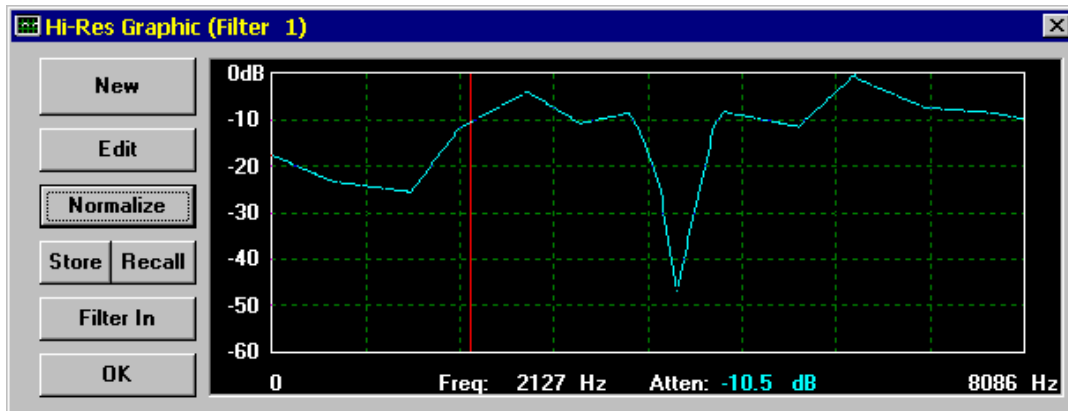

Figure 4-54 Normalized Hi-Res Graphic Filter
10. Normalizing the filter places the highest point on the filter curve at 0 dB. Doing so minimizes loss in the filter and preserves system dynamic range. Now normalize the filter curve to 0dB by clicking the **Normalize** button. You should see the mouse cursor change to the "hourglass" shape for a few seconds; when the normalization calculations are complete, the filter shape should appear as follows (Figure 4-54):